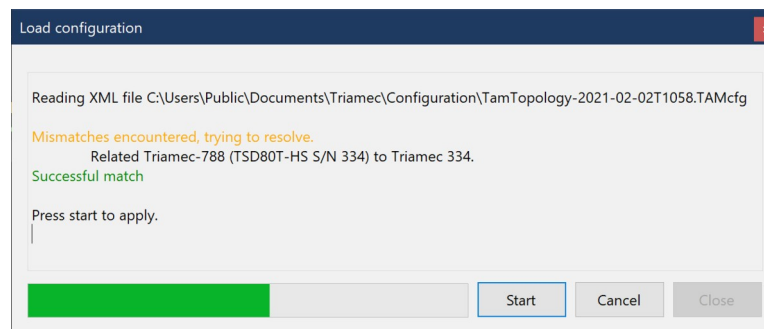

Figure 21: Configuration download progress window
3. If issues are detected with the configuration, you will need to manually **Start** the process after having reviewed the warnings carefully (Figure 21).